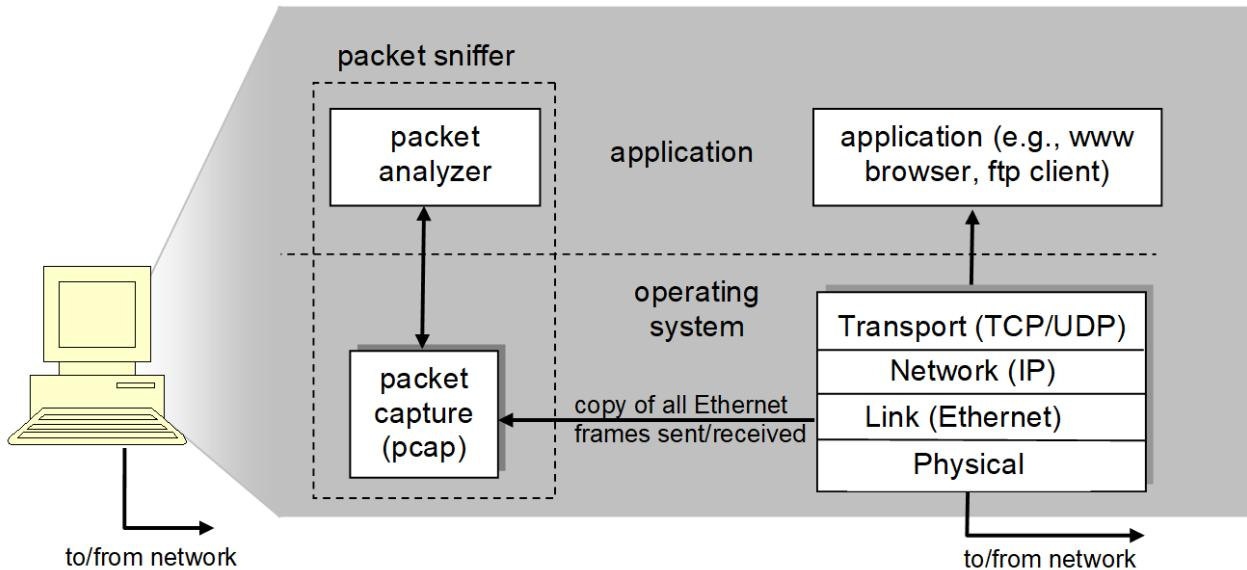

Figure 4.1: Packet Sniffer Structure
Figure 4.1 shows the structure of a packet sniffer. At the right of Figure 4.1 are the protocols (in this case, Internet protocols) and applications (such as a web browser or ftp client) that normally run on your computer. The packet sniffer, shown within the dashed rectangle in Figure 4.1 is an addition to the usual software in your computer, and consists of two parts. The **packet capture library** receives a copy of every link-layer frame that is sent from or received by your computer. Messages exchanged by higher layer protocols such as HTTP (that we use to browse the web) all are eventually encapsulated in link-layer frames that are transmitted over physical media such as an Ethernet cable or a wireless medium. In Figure 4.1, the assumed physical media is an Ethernet, and so all upper-layer protocols are eventually encapsulated within an Ethernet frame. Capturing all link-layer frames thus gives you all messages sent/received from/by all protocols and applications executing in your computer.
The second component of a packet sniffer is the **packet analyzer**, which displays the contents of all fields within a protocol message. In order to do so, the packet analyzer must “understand” the structure of all messages exchanged by protocols. For example, suppose we are interested in displaying the various fields in messages exchanged by the HTTP protocol in Figure 4.1. The packet analyzer understands the format of Ethernet frames, and so can identify the IP datagram within an Ethernet frame. It also understands the IP datagram format, so that it can extract the TCP segment within the IP datagram. Finally, it understands the TCP segment structure, so it can extract the HTTP message contained in the TCP segment. Finally, it understands the HTTP protocol and so, is able to identify the contents of HTTP message.
3. To begin packet capture, select the Capture pull down menu and select *Options*. This will cause the “Wireshark: Capture Options” window to be displayed with the available interfaces as shown in Figure 4.1 earlier.